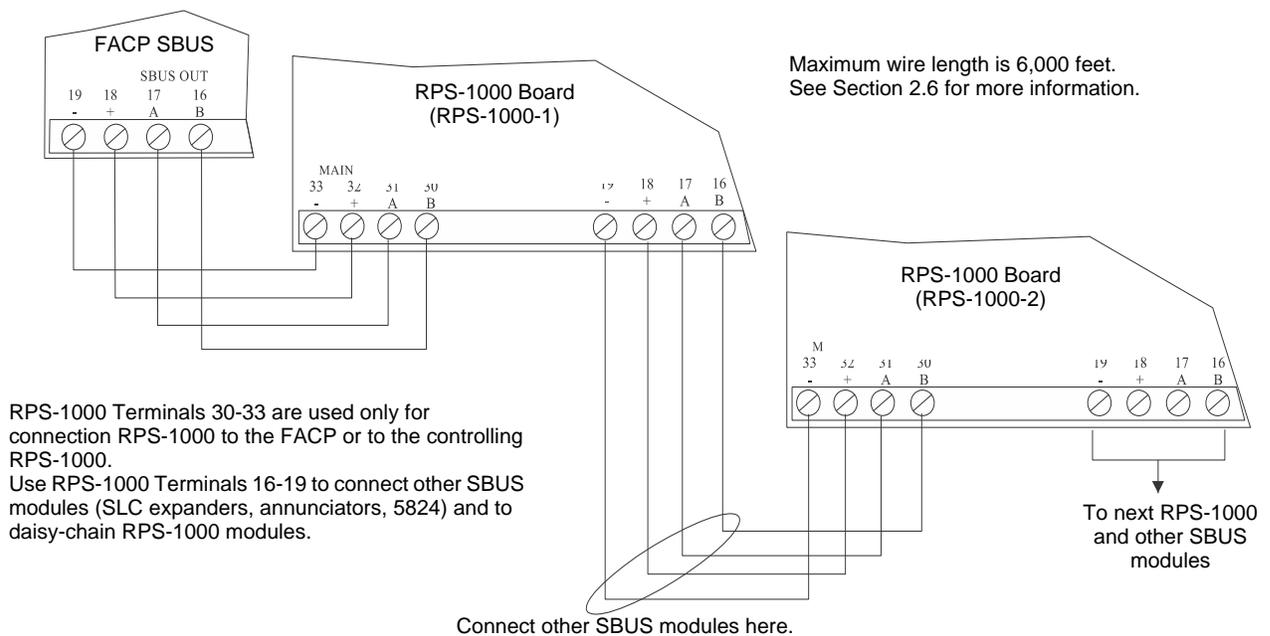

Figure 3.5 Class B RPS-1000 Connection to FACP
1. Connect the RPS-1000 to the appropriate SBUS. The RPS-1000 can be connected directly to the FACP or it can be daisy-chained to another RPS-1000. Refer to Figures 3.5 and 3.6.